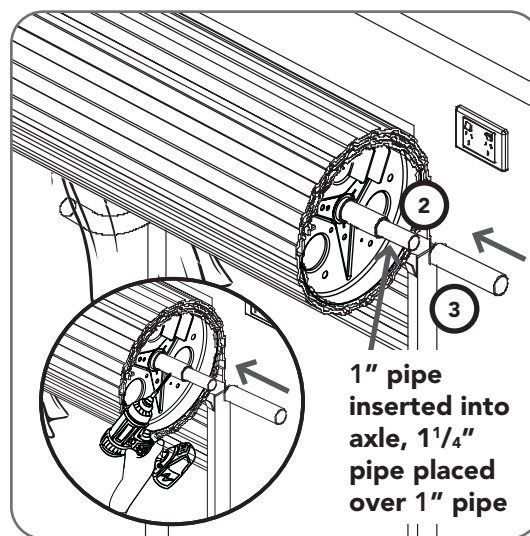

Fig. 3.2
- Insert the 1" extension pipe (2) into the end of the axle and push in half way into the axle in **Fig 3.2**.
- Drill a 3/16" pilot hole on an angle into the axle and through the extension pipe. (**Fig 3.2**)
- Insert the 1 1/4" pipe (3) over the 1" extension pipe. (If extension pipe is too long, cut pipe to fit sideroom before fitting)